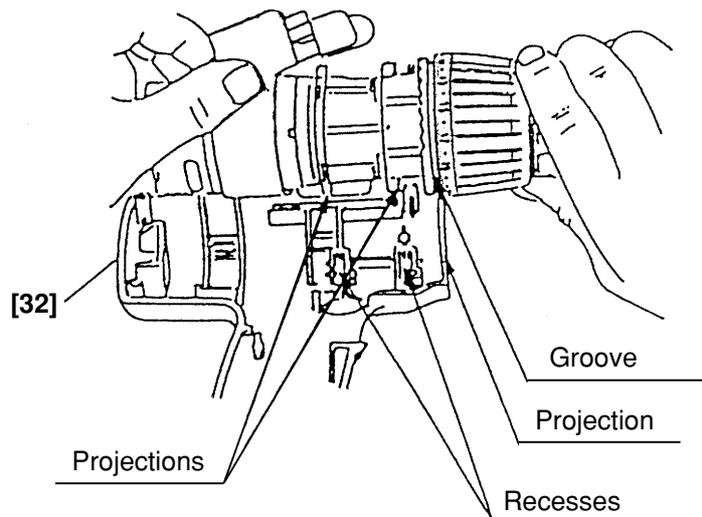

Fig. 15
- (b) Install the assembly reassembled in step (3) into Housing (A). Note that the projections on the Front Case [9] and the Motor Spacer [25] are engaged in the recesses in Housing (A), and the projection on Housing (A) is engaged in the groove of the Cap [4]. (See Fig. 15.)